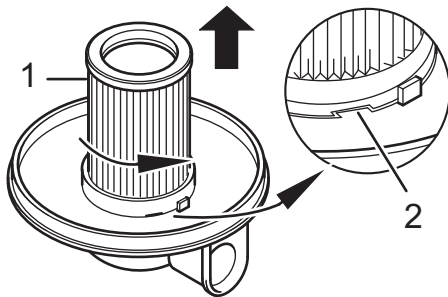

Fig. 22
5. Turn the central laminar filter (Fig. 22/1) to the left to unlock it. It can now be removed.
7. Place the central laminar filter inside again. When doing this, place it in the receptacle on the cover of the dust container in such a way that the 3 recesses in the filter hook into the 3 projections of the cover (Fig. 22/2). Then turn the central laminar filter to the right until it reaches the stop point.